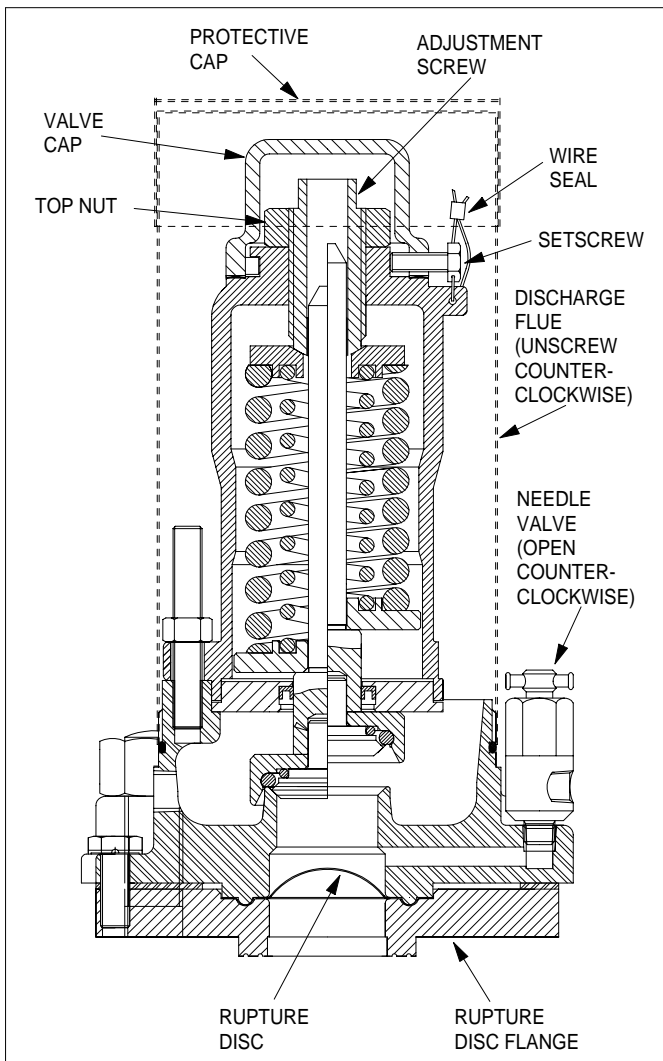

Figure 21 - Valve Components
4.5.2.11 If the valve is a combination device (includes a rupture disc - Fig. 21), reinstall the rupture disc making sure that the disc and mounting flange are in serviceable condition as specified in **3.0 Valve Inspection**, subsection **3.1.8) Valve Disc** and subsection **3.1.9) Rupture Disc Flange**. Install the rupture disc flange bolts.
4.5.2.13 If there is a needle valve (Fig. 21), pipe plug, or indicator on the side of the valve, open the needle valve or remove the plug or indicator. This is necessary to equalize pressure in the chamber above the disc.